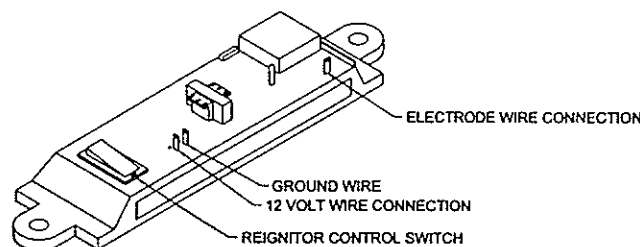

Figure 7
- B. Make 12 volt D.C. connections to re-ignitor as illustrated in Figure 7.